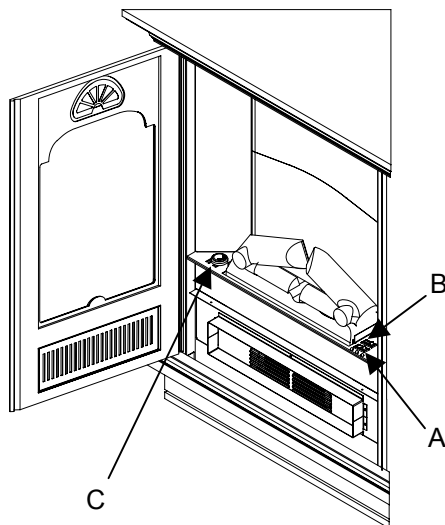

FIGURE 4
2. Locate manual controls refer to FIGURE 4.